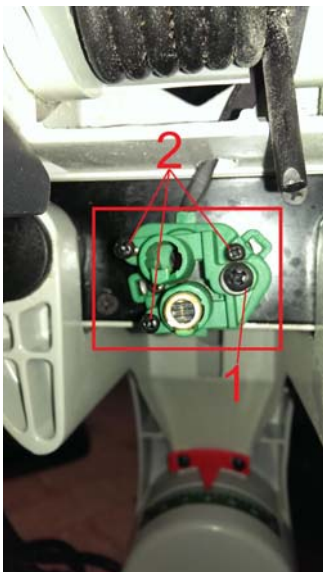

Fig. 13: Adjusting the laser
Step 1: Loosen the screw (Pos. 1, Fig. 13) to loosen the laser.
Step 2: Then set the desired inclination by turning the screws (Pos. 2, Fig. 13) to the left or to the right.